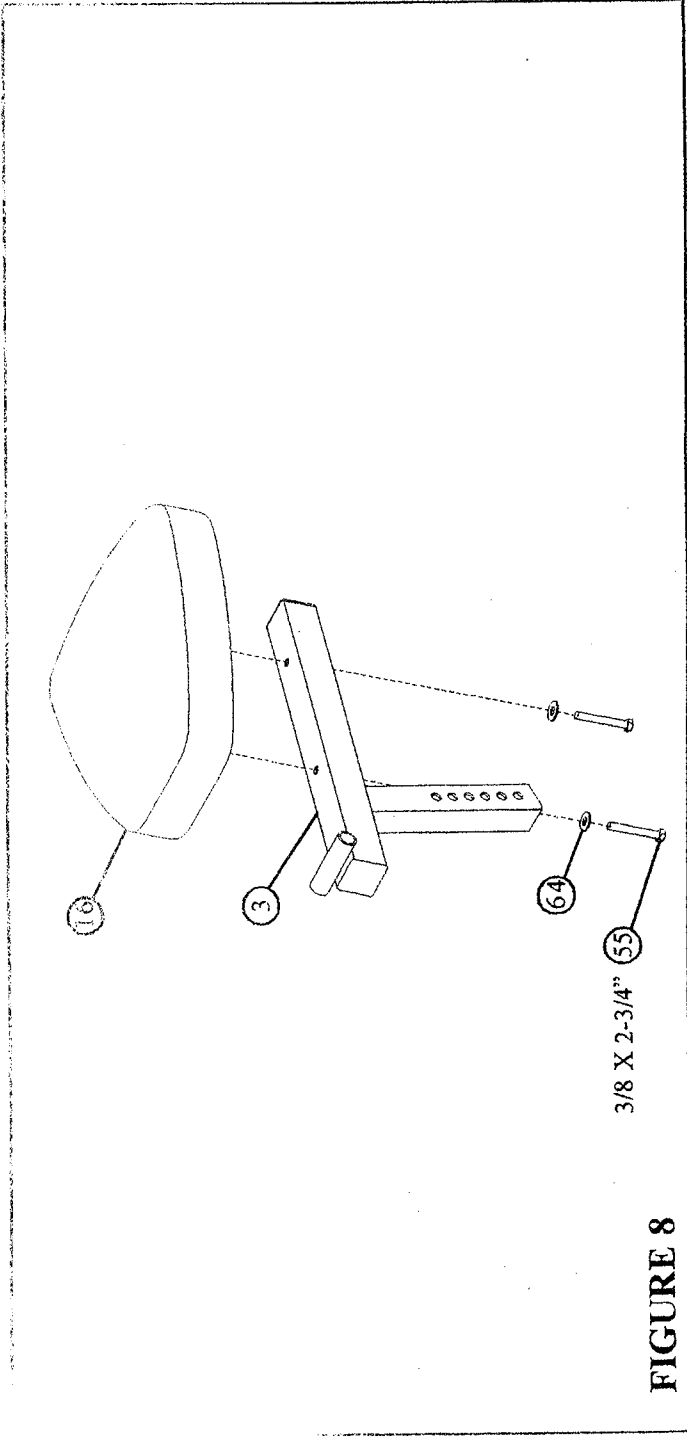

FIGURE 8
SECURELY assemble one SEAT PAD (16) to the SEAT ADJUST (3) using two 3/8 X 2-3/4" BOLTS (55) and two 3/8" WASHERS (64). See FIGURE 8.